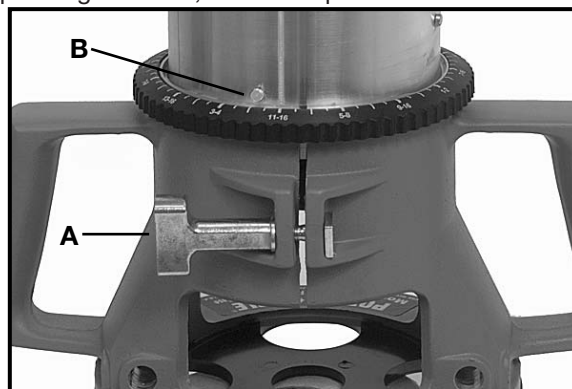
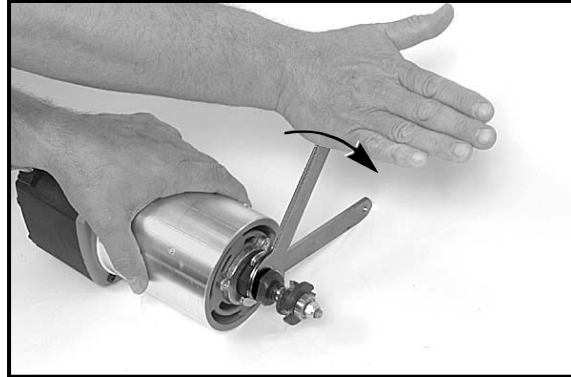

Fig. 1
Fig. 2
- (a) Loosen clamp screw (A), Fig. 1.
- (b) While holding base, turn motor unit COUNTERCLOCKWISE until lower pin (B) in motor housing is disengaged from groove in base.
5. Place one wrench on flats on chuck with the opposite end of the wrench resting on the bench to your left, Fig. 2.
6. Place other wrench on collet and tighten COUNTERCLOCKWISE as shown in Fig. 2. TIGHTEN SECURELY.
2. Loosen the clamp screw (A), Fig. 1, to allow the power unit to be set in the base unit.
3. Insert motor unit into base aligning lower pin (B) with groove in base.